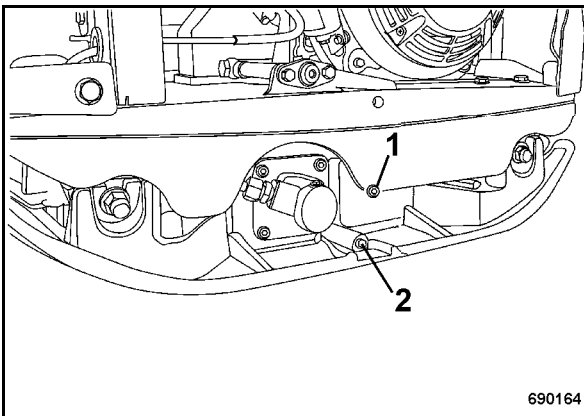

Fig. 59
- Clean the oil drain plug (2) (Fig. 59) and screw in with Omnifit FD 10 BOMAG PIN 00970016.
- Screw vent plug (1) tightly back in.